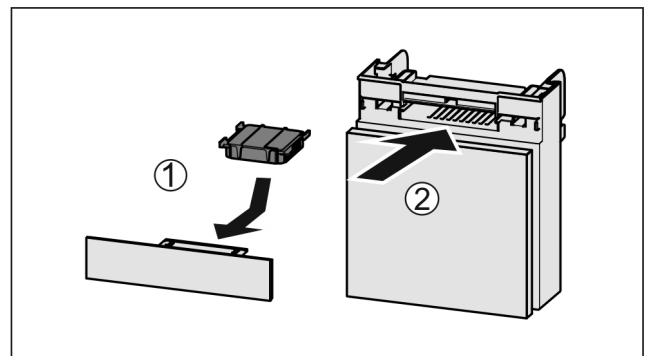

Fig. 39
- Insert the carbon filter as shown in the diagram Fig. 39 (1).
- ▶ Push the compartment in *Fig. 39 (2)*.